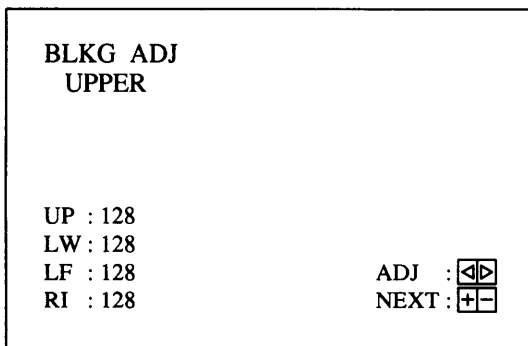

Figure 3
2. Press the BLK key and confirm that the projector enters the blanking adjustment mode, and the message appears as shown in Figure 3.